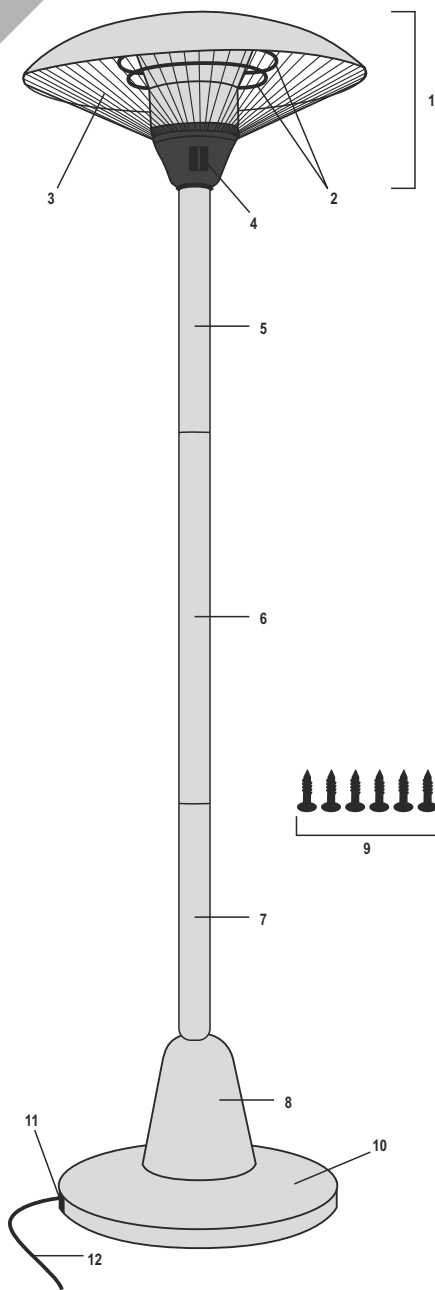

figure 2 • Abbildung 2 • 2. ábra • 2. obraz • figura 2. • 2. skica • 2. skica • 2. obrázek • 1. slika
1. Confirm that the appliance has not been damaged in transit. 2. Never locate the unit directly in corners and observe the minimum mounting distances indicated in Figure 2. Always observe the health and safety regulations valid in the country of use. 3. The appliance must not be used with programmable timers, timer switches or stand-alone remote controlled systems that can automatically turn the unit on because any covering or improper location of the unit can cause a fire hazard. 4. The appliance should be used as intended for heating air, not for general heating purposes. 5. The stream of hot air should not be aimed directly at curtains or other flammable materials. 6. During operation and immediately after switching off (within 30 minutes) the protective grille and the upper metal parts of the appliance will be hot! 7. Do not locate near flammable materials. (min. 150 cm) 8. Do not use in locations where flammable vapors or explosive dust may be present. Do not use near flammable materials or in potentially explosive atmospheres. 9. Warning: The appliance contains no thermostat that senses the ambient temperature of the room. Do not use in confined spaces if there are persons present who are not capable of leaving the premises on their own accord unless permanent supervision is assured. 10. The protective grille on the appliance is intended to prevent direct contact with the heating elements. The appliance may not be operated without the protective grille in place. 11. The protective grill does not provide full protection in the case of small children and elderly or incapacitated persons! 12. Operate only under constant supervision. 13. Do not operate unattended in the presence of children. 14. It is PROHIBITED to use the unit in the close proximity of bathtubs, basins, showers, swimming pools or saunas. 15. It is STRICTLY PROHIBITED to install or use the appliance in zones 0 and 1 of premises containing bathtubs or showers (see Figure 3)! 16. All circuits in premises containing bathtubs or showers shall be protected with one or more RCDs with a rated triggering current of up to 30 mA! 17. Observe the local or special national regulations when installing an appliance in premises containing bathtubs or showers. 18. It is prohibited to use the appliance in motor vehicles or in confined spaces such as elevators. 19. When planning not to use the unit for an extended period of time, switch it off then remove the power plug from the outlet. Store the appliance in a cool, dry place. 20. Always remove power from the heater before relocating it. 21. Do not locate the appliance directly below a wall outlet. 22. If any irregular operation is detected (e.g., unusual noise or burnt odor from unit), immediately switch it off and remove the power plug. 23. Make sure that no foreign objects or liquid can enter the unit through the openings. 24. Protect from dust, humidity, sunlight and direct heat radiation. 25. Power off the unit by unplugging it from the electric outlet prior to cleaning. 26. Do not touch the unit or the power cable with wet hands. 27. The appliance may only be connected to properly grounded 230 V~ / 50 Hz electric wall outlets. 28. Unwind the power cable completely. 29. Do not use extension cords or power strips to connect the unit. 30. Do not lead the power cable on top of the appliance or near the heat radiating surface. 31. The appliance should be located so as to allow easy access and removal of the power plug. 32. The unit is intended for household use. No industrial use is permitted.
1. Bitte vergewissern, dass das Gerät beim Transport nicht beschädigt wurde! 2. Das Gerät nicht direkt in die Ecke stellen und beim Montieren die Abstände gemäß Abbildung 2 einhalten! Die gültigen Sicherheitsvorschriften des jeweiligen Landes berücksichtigen! 3. Das Gerät darf nicht mit einem Programmschalter, Zeitschalter oder mit separaten ferngesteuerten Systemen, etc. zusammen benutzt werden, die das Gerät selbständig einschalten können, da durch eventuelles Abdecken, bzw. falsches Aufstellen des Gerätes Brandgefahr entstehen kann. 4. Das Gerät darf nur bestimmungsgemäß, für die Erwärmung der Luft und nicht für allgemeine Erwärmungszwecke verwendet werden. 5. Die ausströmende warme Luft sollte nicht direkt auf Vorhänge oder sonstige brennbare Materialien gerichtet sein! 6. Beim Betrieb und unmittelbar nach dem Ausschalten (innerhalb von 30 Minuten) sind der Schutzgitter, sowie das obere Metallteil des Gerätes heiß! 7. Nicht in der Nähe von brennbaren Materialien aufstellen! (mind. 150 cm) 8. Es ist verboten, das Gerät in Räumen zu benutzen, wo brennbare Dämpfe oder explosiver Staub freigesetzt werden können! Nicht in feuer- und explosionsgefährdeten Bereichen benutzen! 9. Achtung! Dieses Gerät verfügt über keinen Thermostat, der die Raumtemperatur feststellt. Nicht in kleinen Räumen verwenden, wenn sich dort Personen aufhalten, die nicht imstande sind, den Raum allein zu verlassen, ausgenommen den Fall, dass eine ständige Aufsicht gewährleistet ist. 10. Der Schutzgitter dieses Gerätes ist dafür vorgesehen, die direkte Berührung der Heizeinsätze zu verhindern. Das Gerät darf nicht ohne den richtig platzierten Schutzgitter betrieben werden! 11. Der Schutzgitter bietet für Kleinkinder, sowie für alte oder kranke Menschen keinen vollständigen Schutz! 12. Nur unter ständiger Aufsicht betreiben! 13. Es ist verboten, das Gerät in der Nähe von Kindern unbeaufsichtigt zu betreiben! 14. A Es ist VERBOTEN das Gerät in unmittelbare Nähe von Badewanne, Dusche, Schwimmbecken oder Sauna zu nutzen! 15. Es ist STRENG VERBOTEN das Gerät in Zonen 0 und 1 von Räumen (siehe Abb. 3), die Badewanne oder Dusche enthalten in Betrieb zu nehmen und zu nutzen! 16. In einem Raum, der Badewanne oder Dusche enthält, sind jeder Stromkreis durch einen oder mehreren Schutzschalter (RCD) mit Nennauslösestrom von max. 30 mA zu schützen! 17. Bei Inbetriebnahme eines Geräts in Räumen, die Badewanne oder Dusche enthalten, sind die lokale und landesspezifische Bedingungen zu berücksichtigen. 18. Es ist verboten, das Gerät in Fahrzeugen oder in engen (< 5 m3), geschlossenen Räumen (z.B. Fahrstuhl) zu benutzen! 19. Wenn das Gerät für längere Zeit nicht benutzt wird, ausschalten und den Netzstecker ziehen! Das Gerät an einem trockenen und kühlen Ort lagern! 20. Den Heizkörper vor dem Verschieben immer vom Stromnetz trennen! 21. Es ist verboten, das Gerät direkt unter einer Steckdose zu montieren! 22. Wenn Sie etwas Unregelmäßiges bemerken (z.B. ein Geräusch aus dem Gerät hören oder Angebranntes riechen), das Gerät sofort ausschalten und vom Stromnetz trennen! 23. Bitte darauf achten, dass keinerlei Gegenstände oder Flüssigkeiten durch die Öffnungen ins Innere des Gerätes gelangen können. 24. Vor Staub, Wasserdampf, direkter Sonneneinstrahlung und Hitze schützen!